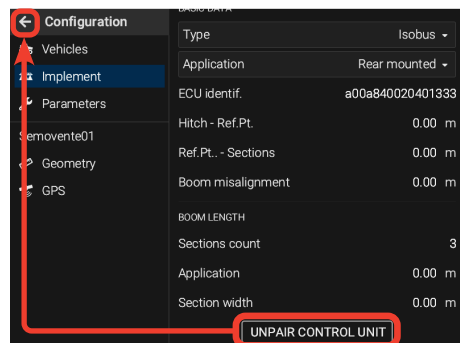

Fig. 37
- Fig. 37: press **UNPAIR CONTROL UNIT**, then press ← to go to **Home** screen.